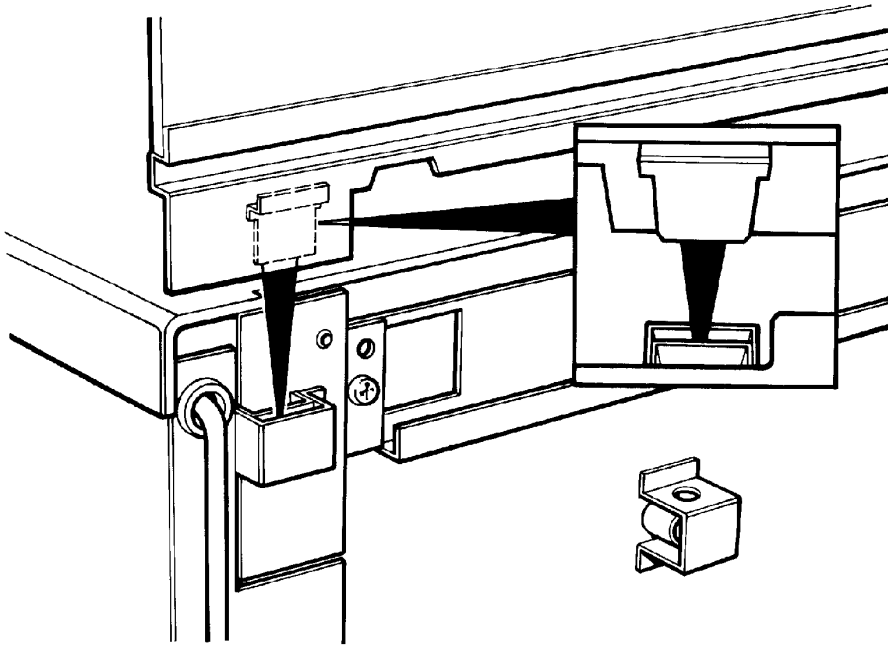

Fig. 6
1. Locate tabs on rear of splashback assembly, into the brackets on the upper rear of the cooker. (See Fig. 6). Push fully into place.